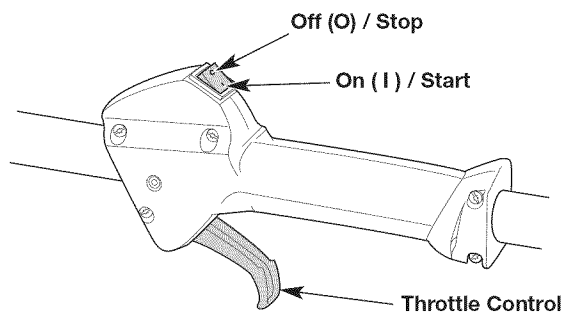
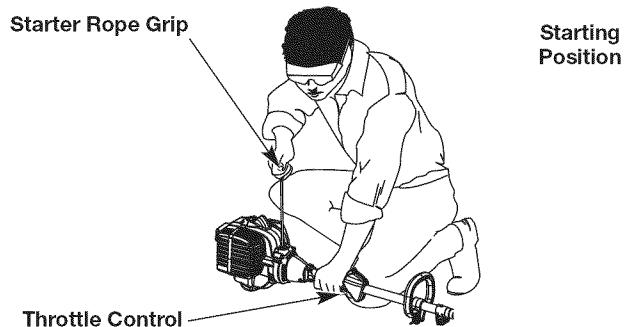

Fig. 3
Fig. 5
WARNING: Avoid accidentally starting the unit. To avoid serious injury, the operator and the unit must be in a stable position when pulling the starter rope (Fig. 5).
NOTE: There is no need to turn the unit on. The On/Off switch is in the ON (I) position at all times (Fig. 3).
5. Crouch in the starting position (Fig. 5).
6. Squeeze the throttle control (Fig. 3) and pull the starter rope with a controlled and steady motion **5 times** (Fig. 5).
2. Press and hold the On/Off switch in the OFF (O) position until the engine comes to a complete stop (Fig. 3).